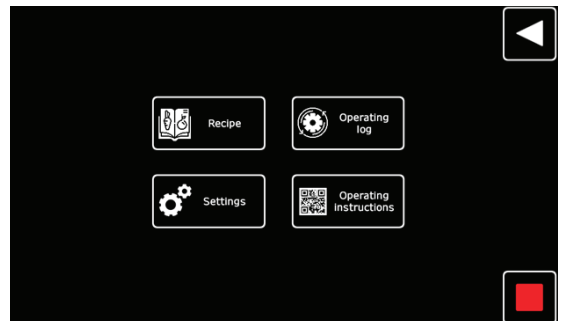

Figure 16-4.
2. Select the “Recipe” button. (Figure 16-4).